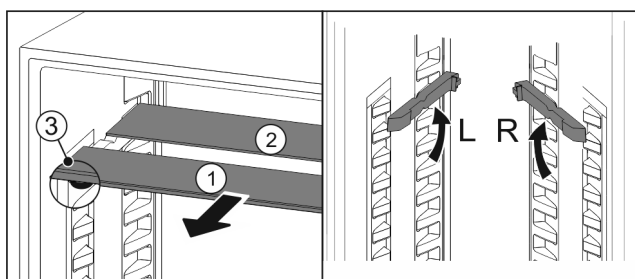

Fig. 119
- Pull the glass panels out Fig. 119 (1) from the front, one at a time.
- The glass panel Fig. 119 (1) and trim strip are at the front.
- The stops Fig. 119 (3) point down.